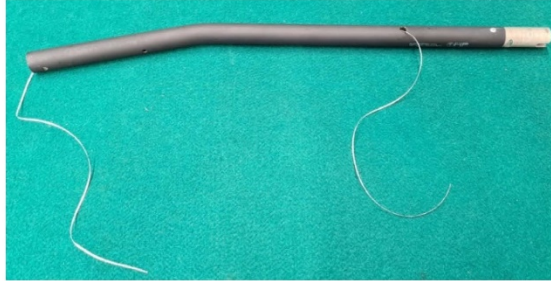

Figure 15 – Puller cord
- Put a puller cord through the hole for grip cables on the new Pilot Collective Stick Tube Assembly P/N M207-20M301-043 and make it come out from the upper end of the replacement tube as shown in Figure 15.